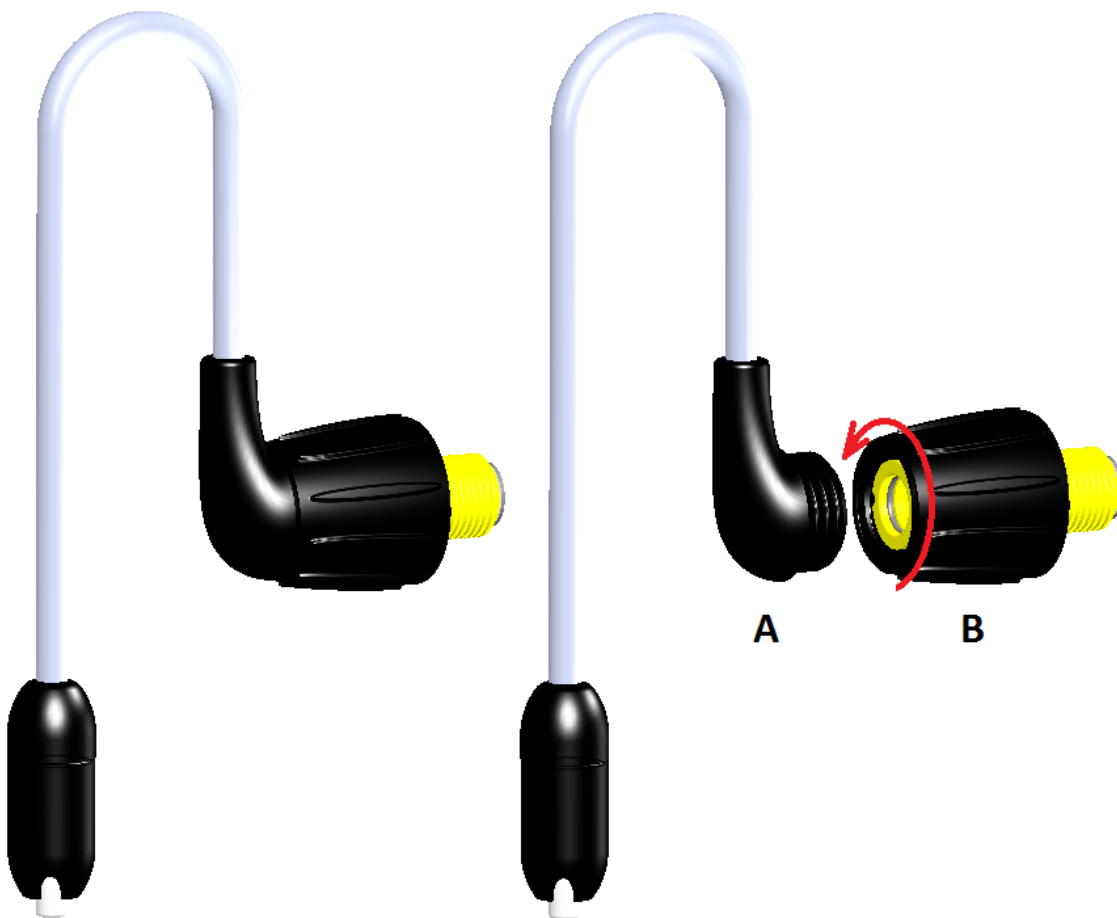

Figure 13
The Nozzle (A) and the Quick Disconnect (B) see Figure 13. To take off the nozzle you turn the black part of B clockwise.